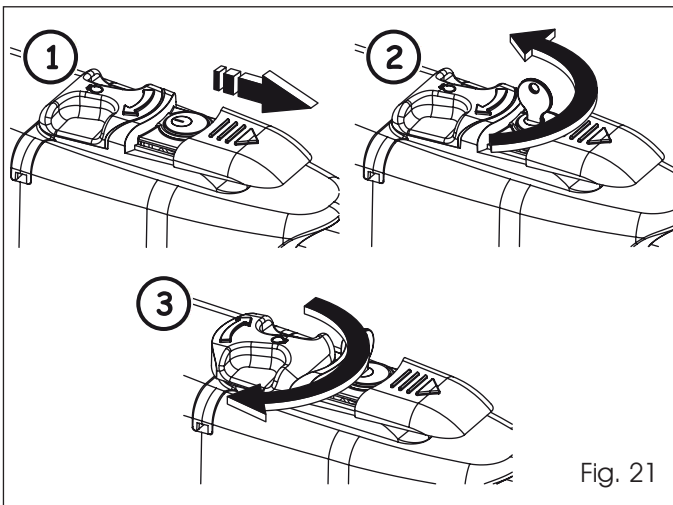

Fig. 21
2. Slide the protective cap, Fig. 21, Ref. 1.
3. Insert the key and turn it 90°, Fig. 21, Ref. 2.
4. To release the operator, turn the control lever 180° in the direction indicated by the arrow on the release system, Fig. 21, Ref. 3.